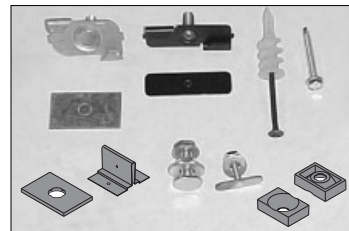

Figure 1A
- Many ceiling grids accept standard Caddy Clips such as $\frac{9}{16}$ " and $\frac{15}{16}$ " (Figure 1). When the grid is recessed, spring spacers and seismic ceiling clips must be used. Use Caddy Clip spacers to prevent scratching the grid (Figure 1A). Donn $\frac{9}{16}$ " fine line uses a $\frac{1}{4}$ "-20 T-bolt. Drywall and hidden grid ceilings require direct attachment of the rail with screws or anchors. Figures 1-4 on the following pages show seismic bracing installation steps.